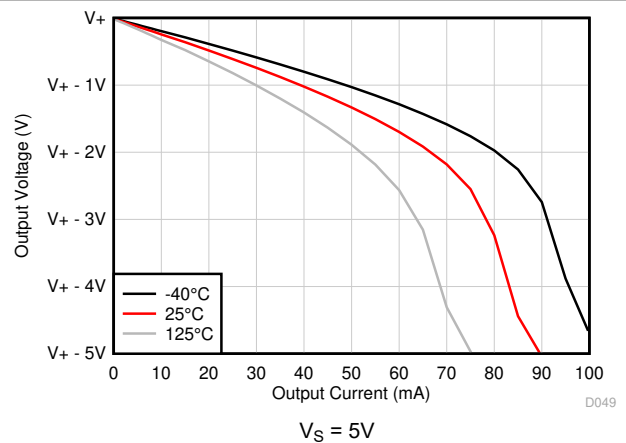
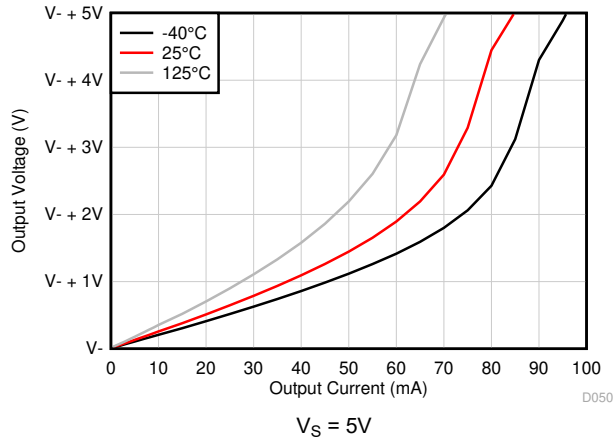

Figure 5-12. Output Voltage Swing vs Output Current (Sourcing), New Die
Figure 5-13. Output Voltage Swing vs Output Current (Sinking), New Die
- (1) At high supply voltage, placing the TL97x in a sudden short to mid-supply or ground can lead to rapid thermal shutdown. Output current greater than I_{SC} can be achieved if rapid thermal shutdown is avoided as per Figure 5-12 and Figure 5-13.